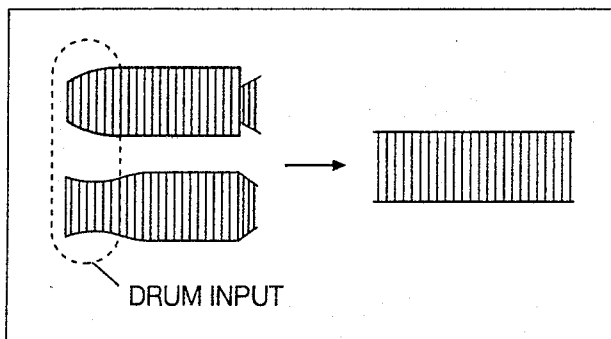

Fig. 5-8
- B. If the ENVELOPE waveform as shown in Fig.5-8, 9, 10 is not uniform, adjust the S, T GUIDE ROLLER repeatedly at the point of nonflat.